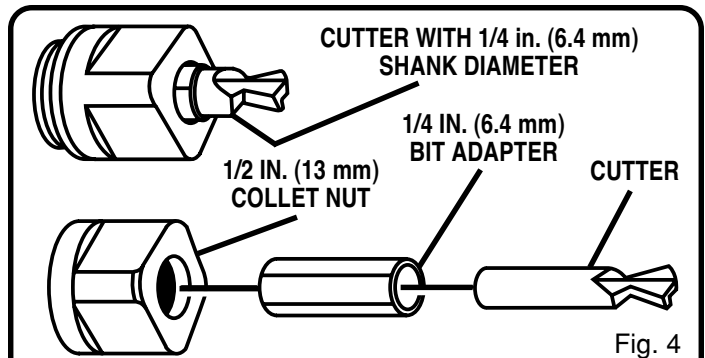

Fig. 4
As mentioned previously, a 1/4 in. (6.4 mm) bit adapter has also been provided with your router so that cutters with 1/4 in. (6.4 mm) shank bits can be used. See Figure 4.
- Place the 1/4 in. (6.4 mm) bit adapter provided in the collet. See Figure 4.